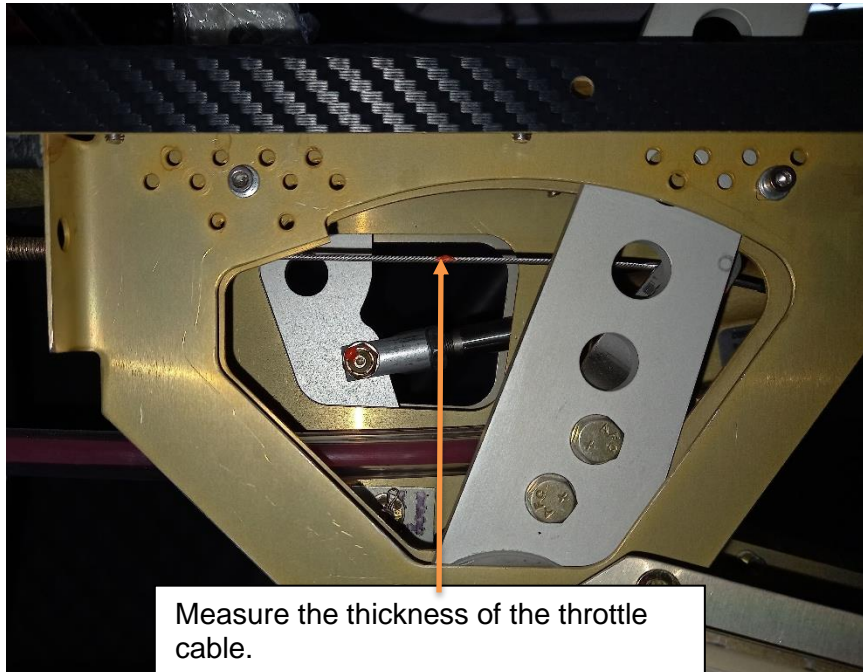

Figure 2: Throttle cable to be measured
- Step 3. Once the panel has been removed, use a vernier calliper to measure the throttle cable thickness. Refer to Figure 2.